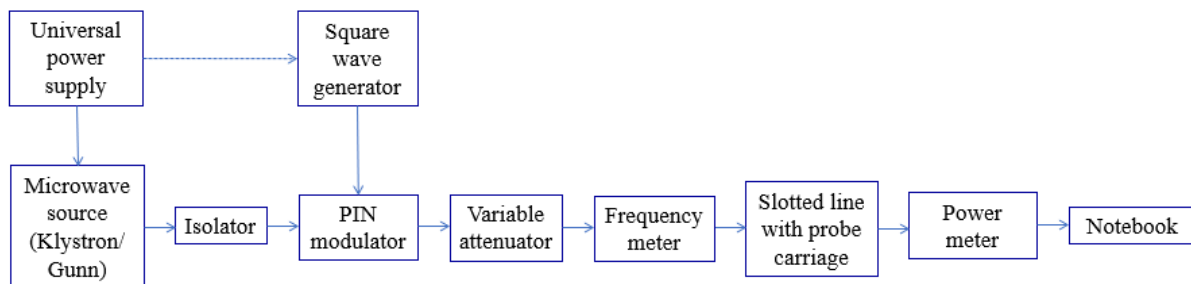

Fig. 3 Measurement set-up (the PIN modulator remains off).
1. Set up the experiment as shown in Fig. 3 with the attenuator at maximum attenuation.